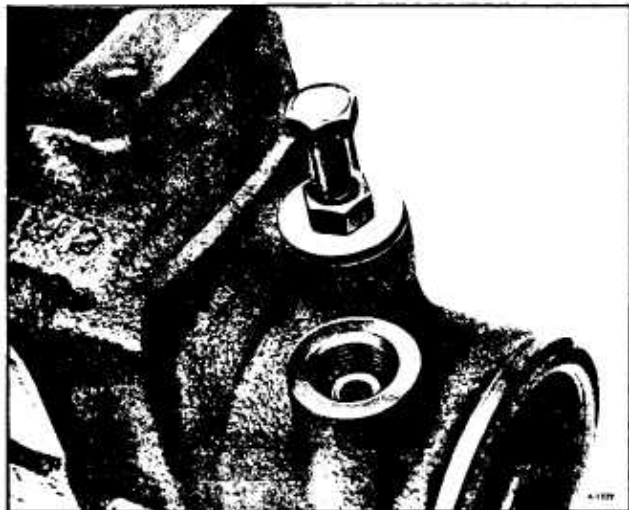

Figure 40—Removing Hose Connector Seat
4. Thread a 5/16-18 bolt with a nut and flat washer into tapped hole (figure 40).